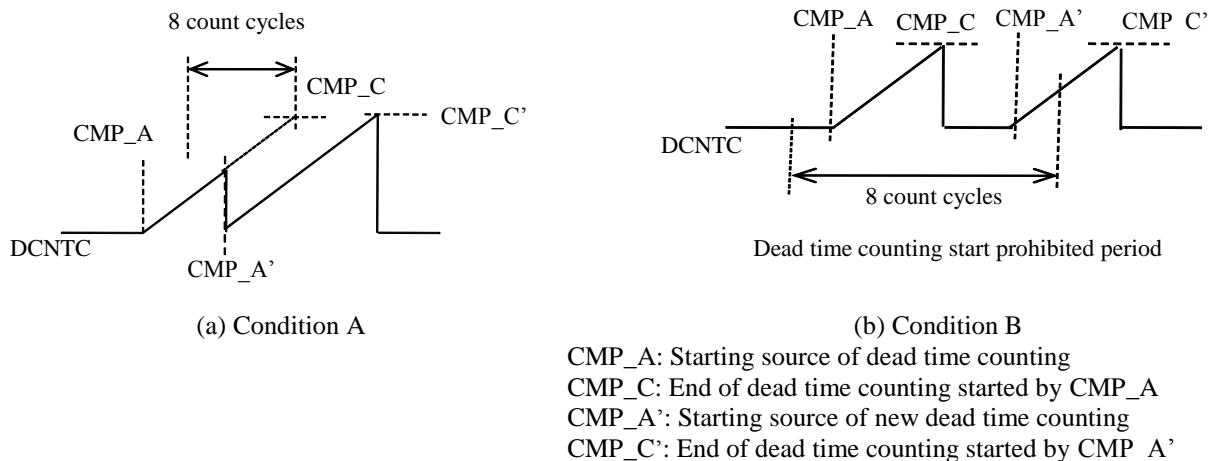

Figure 15-17. Prohibited Waveform of Dead Time Counter (DCNTC)
- Condition A: When another event which starts counting of dead time again is generated in one to 8 count cycles before the timing at which dead time counting ends (see Figure 15-17 (a)) while the dead time counter is operating.
- Condition B: When, the same dead time counter starts counting twice or more within 8 count cycles (see Figure 15-17 (b)) while the PWM counter is operating in the up mode (i.e., PWMnCNTMD.PWMCMD = 0).